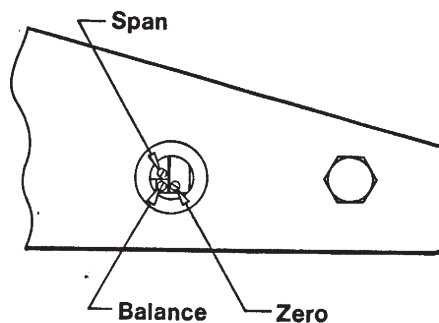

Figure 6
- 3) Unscrew the calibration access plug and locate the zero adjustment screw (See Figure 6).